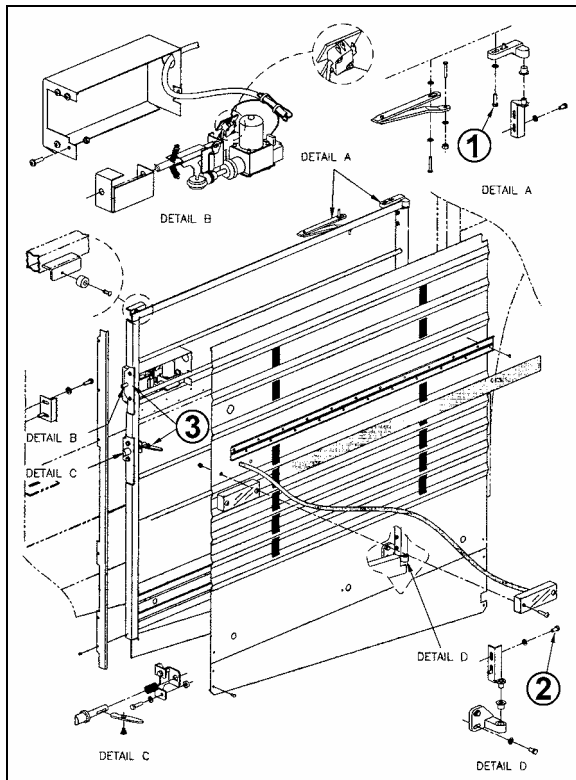

FIGURE 33: ENGINE COMPARTMENT R.H. SIDE DOOR¹⁸⁶³⁵
1. Loosen the bolts, (1, Fig. 33) holding the hinge to the vehicle structure to shift the door "IN or OUT" and "UP or DOWN".
2. Loosening the bolts (2, Fig. 33) allows the door to be shifted "LEFT or RIGHT" and "UP or DOWN".
To adjust the latch mechanism (3, Fig. 33) and the striker pin: